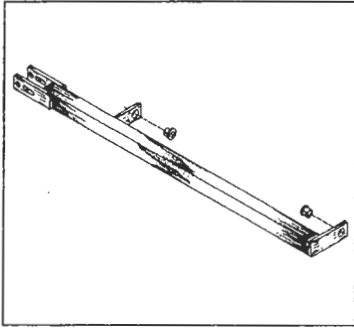

FIG. 5
- A) Place bushings through holes in mower attachment brackets with flange side so that it will rest against the mower. As shown in **FIG. 5**.